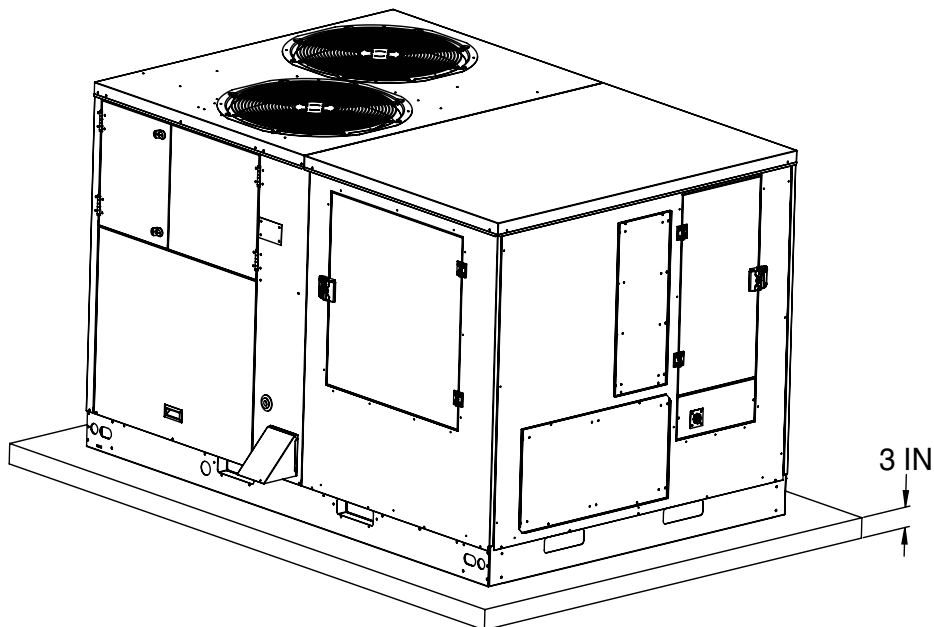

Figure 11. Mounting Pad
- A mounting pad (see Figure 11) separate from the building foundation must be provided. The pad must be level to ensure proper condensate disposal and strong enough to support the unit's weight. The slab height must be a minimum of 3 inches (8 cm) above grade and with adequate drainage.